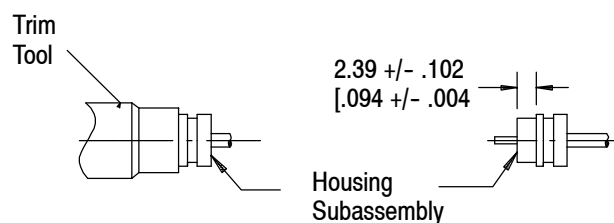

Figure 7
2. Inspect for the dimensions shown in Figure 7.